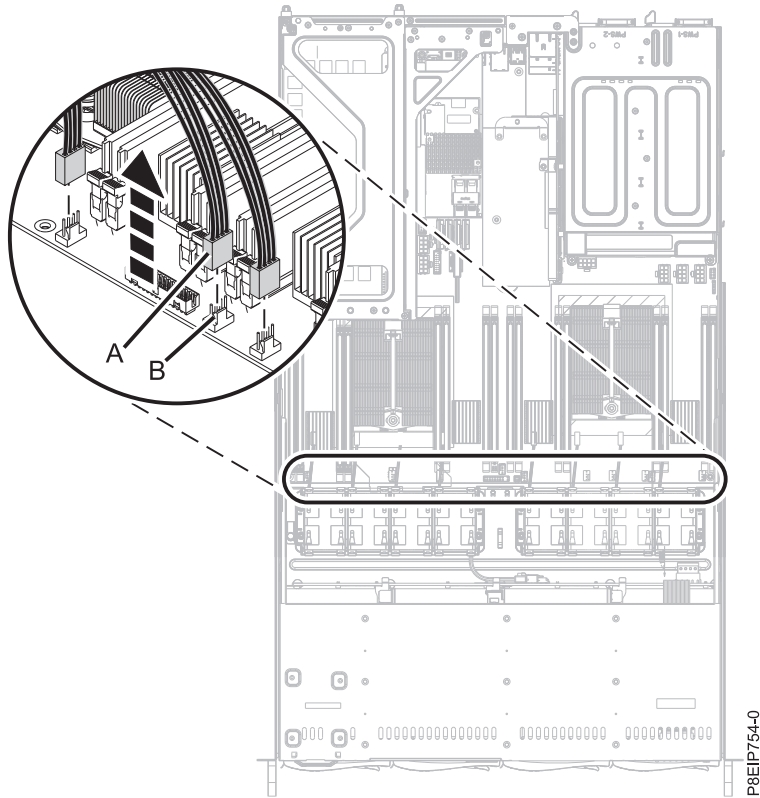

Figure 14. Disconnecting the fan cable
5. To disconnect a fan cable, release the connector clip (B) and carefully pull up the connector (A) from the system backplane, as shown in Figure 14 on page 17. Do not pull on the wires. Feed the cable through the fan holder.